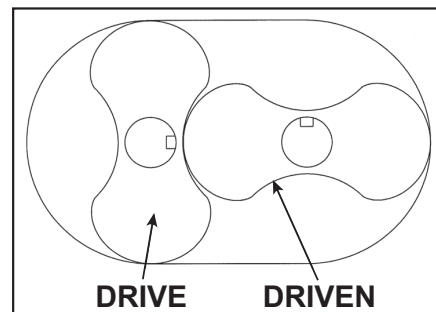

Figure 5. Keyway Position
2. Stand rotors on press with drive rotor [1] on the left, making sure keyways are properly positioned as shown in Figure 5. You may use the drive end plate as a temporary fixture to support the rotor lobes while pressing on the bearings and gears.